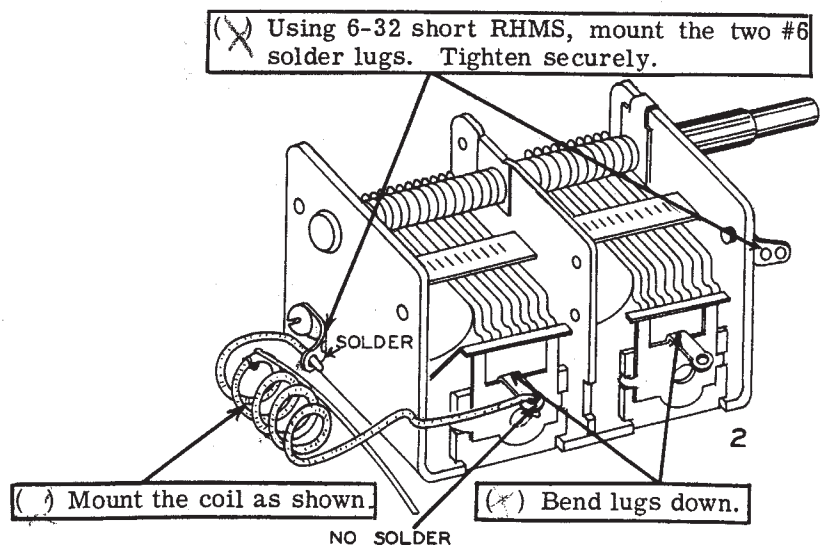

Figure 2
- ( ) Prepare the tuning gang as shown in Figure 2 and mount the assembly on the chassis using three short 6-32 RHMS with lock washers under the heads.